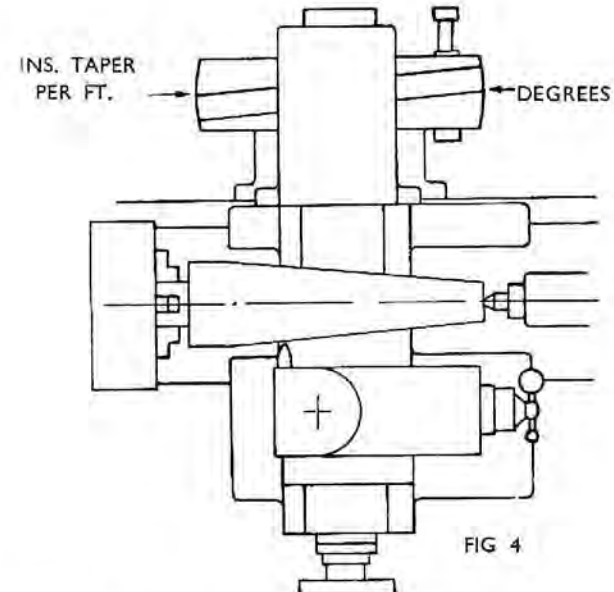

FIG. 4
(3) If the lathe is fitted with a taper turning attachment, fig. 4, then more accurate tapers, either external or internal, can be produced than by the two preceding methods. By the use of this attachment, the lathe centres are not of course taken out of alignment, so that the bearing surfaces are unaffected.